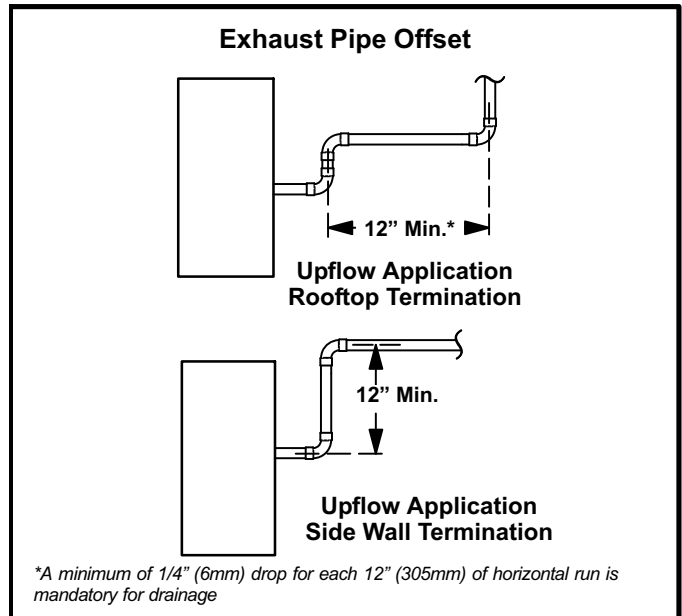

**FIGURE 14**
**NOTE** - A 2" diameter PVC street ell is located on the blower deck of 48C-110, 48C-110H and 60C-110 units (or use field replacement Canadian Kit). **In upflow applications, the street ell must be glued using transition solvent cement directly into the unit flue collar (or use field replacement Canadian Kit).** See figure 14. A 3" to 2" PVC reducing ell is located on the blower deck of the 60D-135 units. **In upflow applications, the reducing ell must be glued using transition solvent cement directly into the unit flue collar.**